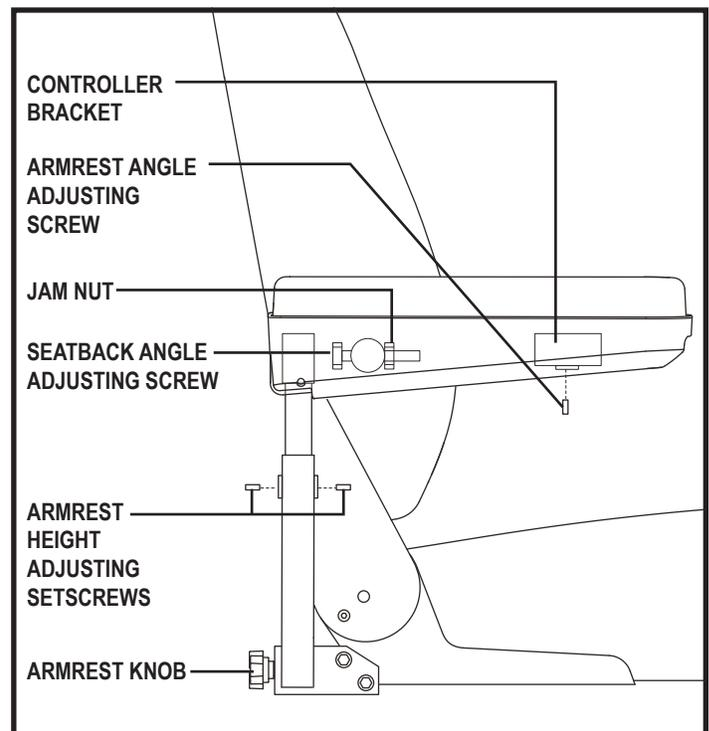

Figure 18. Seatback/Armrest Adjustment
See figure 18.
1. Locate the two armrest knobs on each side of the armrest receiver bracket. **See figure 18.**
1. Loosen the two setscrews located on the armrest receiver. **See figure 18.**